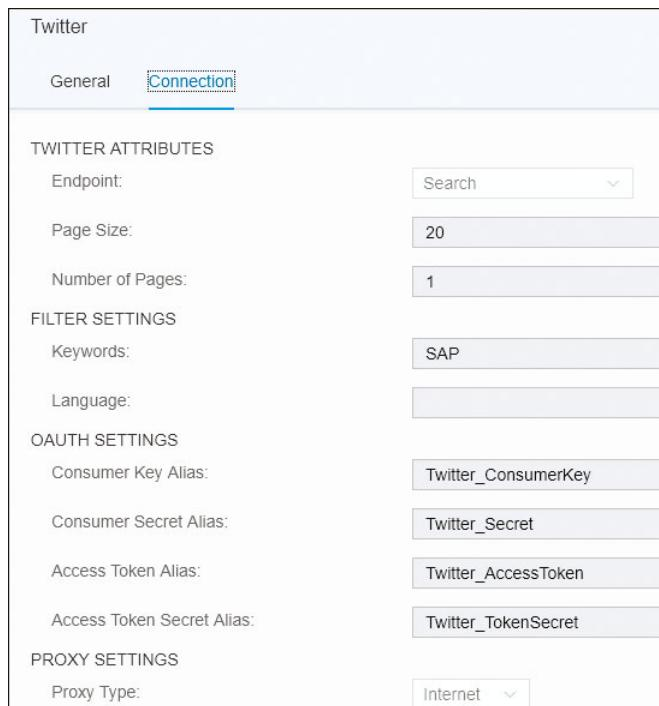

Figure 10.26 Twitter Adapter Settings
4. Configure the Twitter adapter (Figure 10.26).